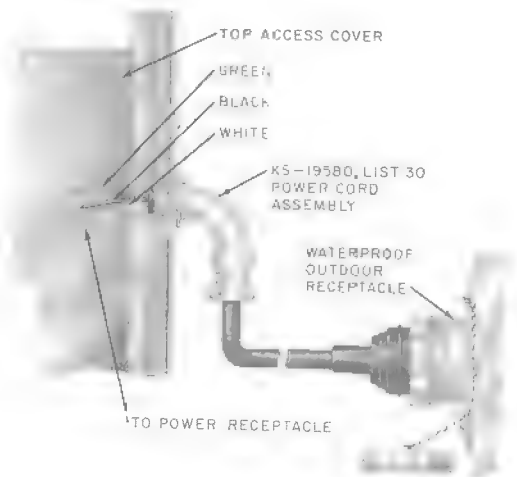

Fig. 17—KS-19580, List 30 Power Cord Assembly for Overhead Entrance
- 3.10** Refer to 2.13 for available cords and Fig. 17 and 18 for their usage.